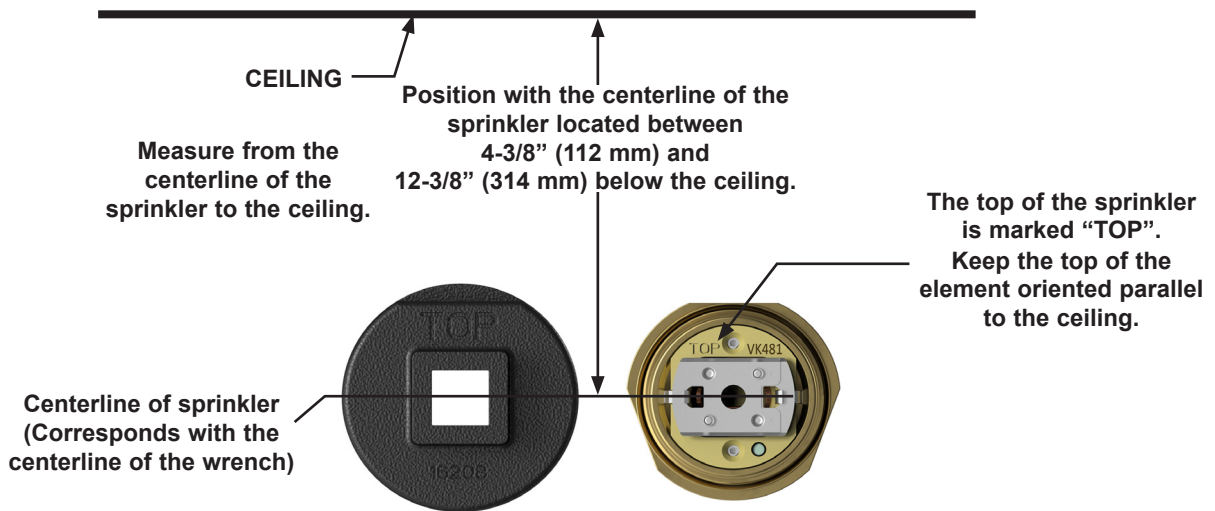

Figure 3: Sprinkler VK481 Correct Deflector Orientation
- **Position with the centerline of the sprinkler located between 4-3/8" and 12-3/8" (112 mm and 314 mm) below the ceiling. THE TOP OF THE SPRINKLER BODY AND THE TOP OF THE INSTALLATION WRENCH ARE MARKED "TOP".** Orient the top of the sprinkler element parallel with the ceiling as shown in Figure 3.